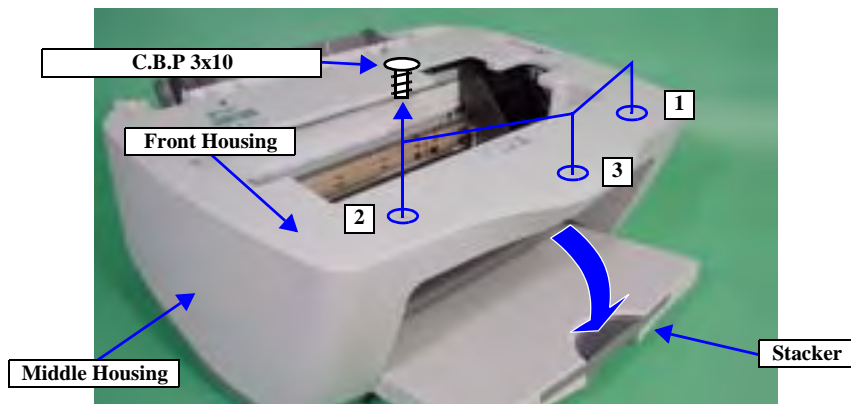

Figure 4-27. Front Housing Removal 1
- When installing the Front Housing, the screws should be installed in the order shown in Figure 4-27.